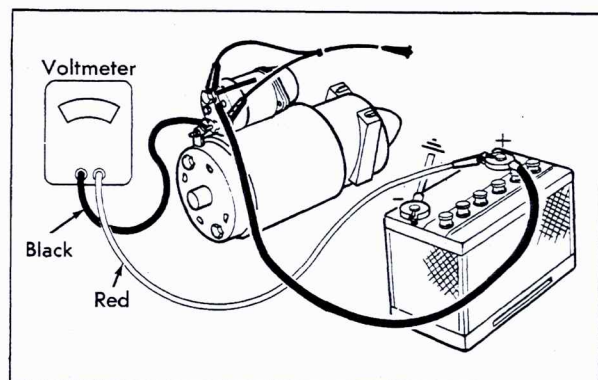

Fig. 6-12 Battery Cable to Starter Test
3. Connect starter solenoid remote switch and test leads as shown in Fig. 6-12.
4. Connect positive voltmeter lead to center of positive battery post, on which insulated battery cable is connected. Connect negative voltmeter lead to starting motor terminal, Fig. 6-12.